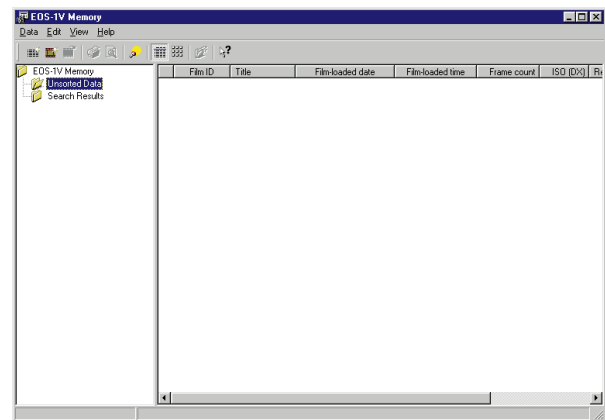

Fig. 1-2 EOS-1V Memory main window.
- ② EOS-1V Memory (Fig. 1-2) enables the shooting data to be viewed and managed.